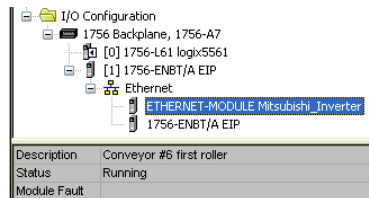

Figure 86: Online Module Status
- 7) Switch to online mode and download the project to the PLC. Verify that the newly-added inverter is available and operating correctly by observing any indications shown on the inverter's icon. When the inverter's icon is selected, its status and any available error messages will be displayed in the area below the project tree. Refer to Figure 86. Also confirm that the interface card's "Network Status" LED should be solid green, indicating an "online/connected" state.